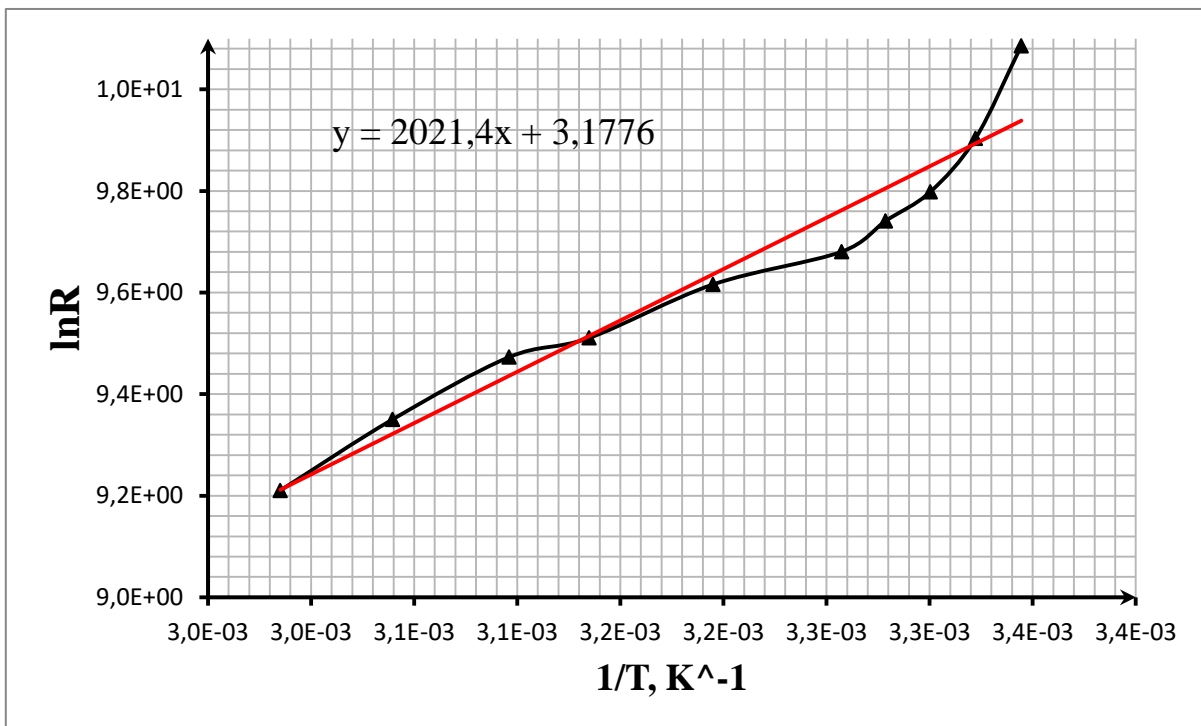

Fig. 6.1.4
1. Construct a  $\ln R$  dependency graph from  $1/T$  using the Excel with equation this function (see Fig. 6.1.4).